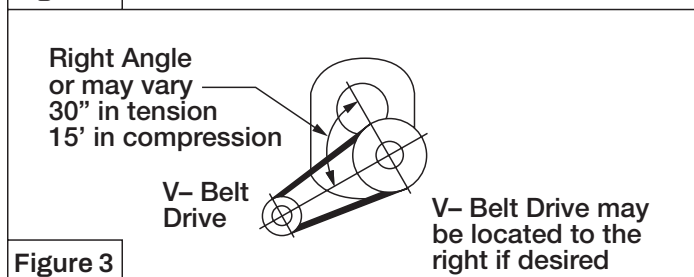

Figure 3
5. Install motor and v-belt drive so belt will approximately be at right angles to the center line between driven and input shaft (see Figure 3). This will permit tightening the v-belt with the torque-arm.